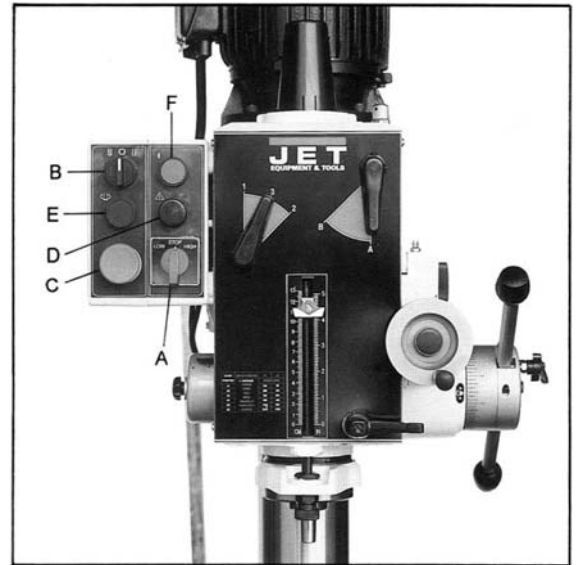

Figure 9A
**Low/Off/High Switch (A, Figure 9A)** Switch between low and high speed range. In the stop position, the spindle is stopped, but the machine still has power.
**Drilling Tapping Selector (B, Figure 9A)** For drilling, press the start switch (F, Figure 9A) to run the machine. **Caution:** The internal depth stop (GHD-20PFT) is used only with the tapping function. Raise the adjusting knob (B, Figure 11) to the top of the depth stop screw so as not to interfere with power downfeed or manual feeding operations. For tapping, turn switch (B, Figure 9A) to tapping position, press down the handle. The quill functions when upper limit switch is released. It then reverses automatically after hitting lower limit switch and will not stop until it hits the upper limit switch.
**Emergency Switch (C, Figure 9A)** Press this switch to stop all operations.
**Power Light (D, Figure 9A)** Indicates power is on.
**Reverse Switch (E, Figure 9A)** If tapping is interrupted press the reverse switch to reverse the tap from workpiece. The button must be held down for continuous reversing.
**Start Switch (F, Figure 9A)** Activates the motor in the drill or tap mode.